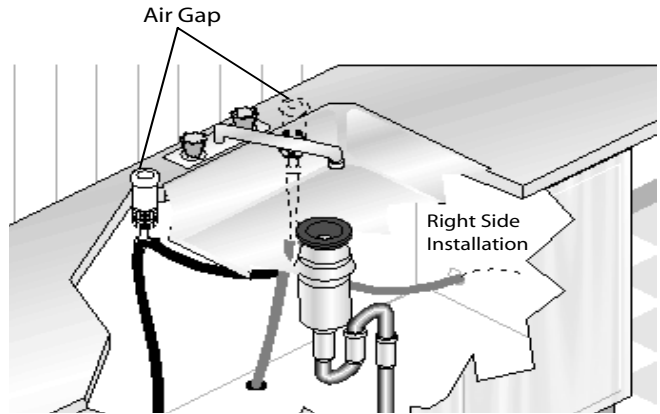
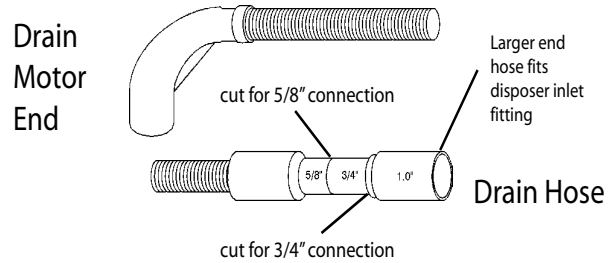

FIG 6
FIG 7
- 5 If you connect to a disposer, the large end of drain hose will fit. Figure 6. The knock out plug must be removed from inside disposer inlet before making the final fit to the drain hose. See Figure 7.